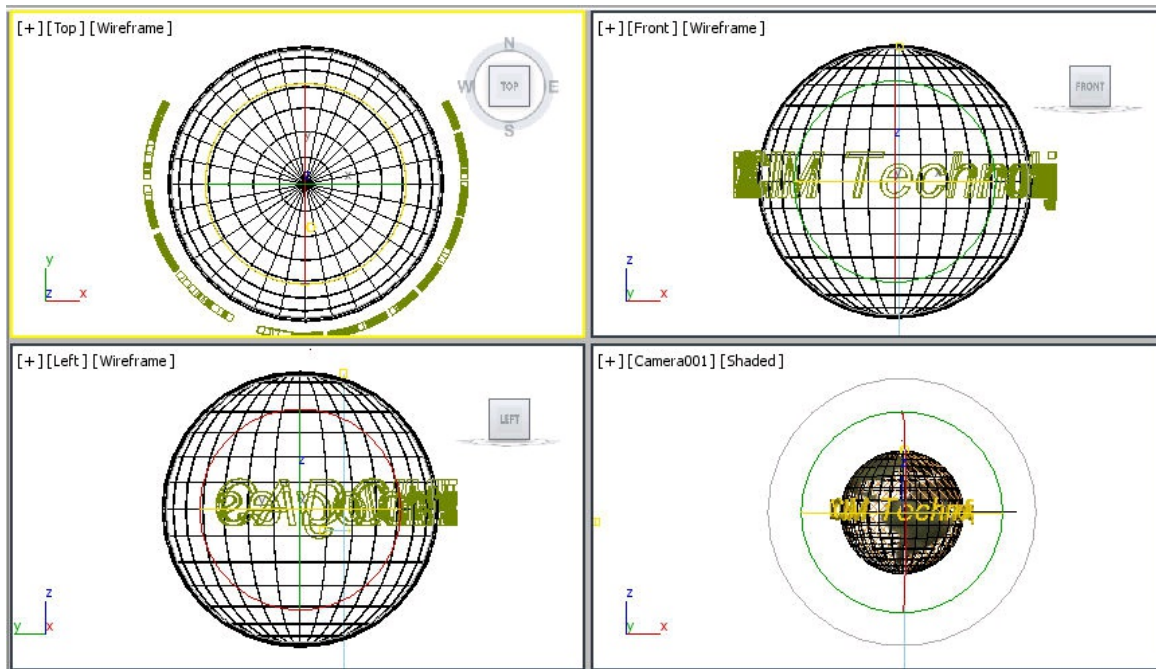

Figure 14-63 The wireframe earth sphere zoomed in viewports
1. Activate the Top viewport and select *wireframe earth sphere*. Next, choose the **Zoom Extents All Selected** tool; *wireframe earth sphere* is zoomed in all the viewports, as shown in Figure 14-63.